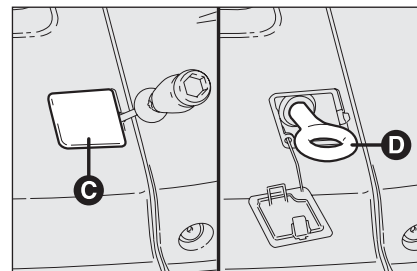

fig. 48
- ☐ take the screwdriver from the tool compartment and lever in the point shown to raise the cap **C-fig. 48**;
- ☐ Take the tow ring **D** from the tool compartment and screw it on the threaded pin **fig. 48**.